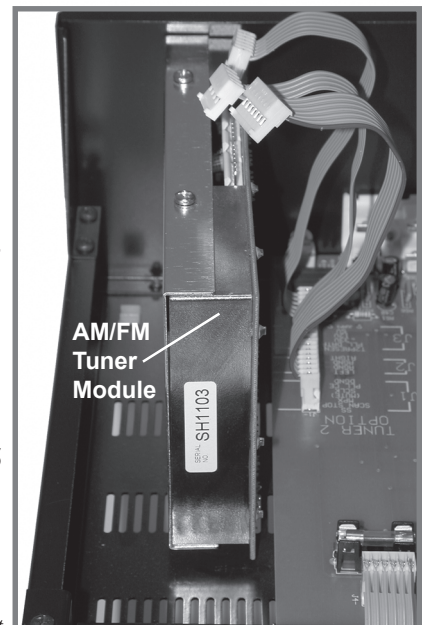

Figure 32
12. Attach the plug of the Six Conductor Ribbon Cable coming from the six pin Socket "J3" as indicated on the MR85 Main PC Board to the six pin Socket "J3" of the Module, which is located closest to the MR85 Rear Panel. Refer to figure 32 and 33.